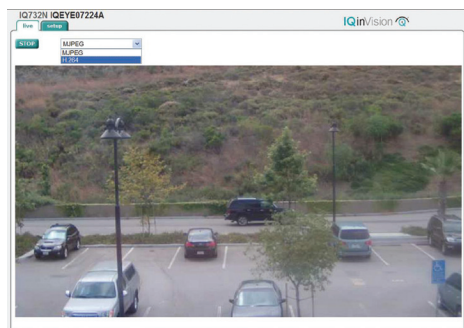

Figure 16
- To prepare the camera to serve the H.264 stream (IQ86x Series), select H.264 from the video format drop-down (Figure 16). To view the H.264 stream full screen (without “Live” page controls) double click on the video area. Double click on the video image again to return back to the “Live” page.